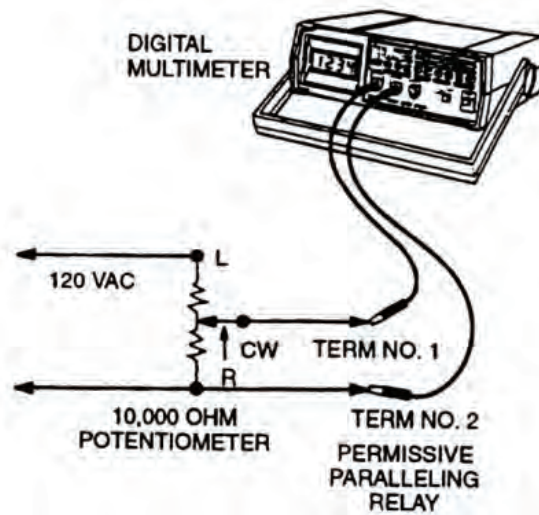

Figure 1. Permissive Paralleling Relay Test Setup.
6. Set up a test circuit (Figure 1). Connect 120 VAC source (can be obtained from CONVENIENCE RECEPTACLE) to terminals L and R of potentiometer. Connect a wire from terminal C of potentiometer to terminal 1 of permissive paralleling relay. Connect a second wire from terminal R of potentiometer to terminal 2 of permissive paralleling relay. Set multimeter for AC volts and connect to terminals 1 and 2 of permissive paralleling relay.